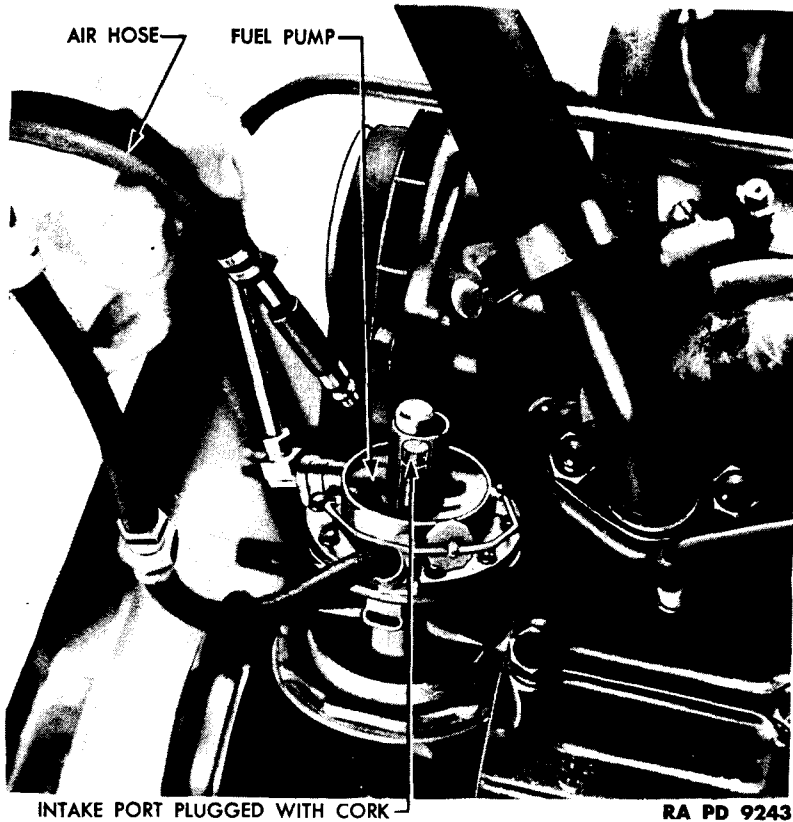

Figure 80 – Cleaning Fuel Pump
b. Cleaning Fuel Pumps. Close shut-off valve at fuel filter in fighting compartment. Open engine compartment rear doors and remove engine fan. Loosen fuel pump bowl bail nut, and swing bail to side. Lift bowl off fuel pump upper cover and remove bowl gasket. Lift strainer assembly off pump. Clean strainer assembly thoroughly with compressed air. Clean bowl with compressed air and dry-cleaning solvent. Plug fuel pump intake port on upper cover with a cork or rubber plug, and direct compressed air into the sediment chamber in the fuel pump upper cover (fig. 80). Install straining assembly on upper cover. Position a new bowl gasket on upper cover and install fuel pump bowl. Swing bail over bowl and tighten bowl nut. Install fan, adjust fan belt and close engine compartment rear doors.